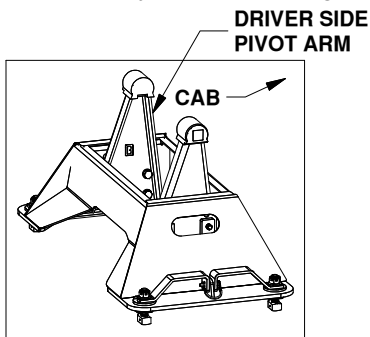
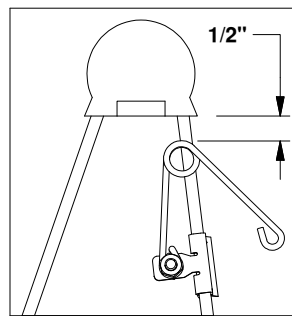

FIGURE B3: View of base.
FIGURE B4: Driver side pivot arm.
2. Locate the flange which will be closest to the truck cab on the driver side pivot arm, see figure B3. The clip should be placed so that when the springs coil is in the line with the edge of the arm there will be 1/2" of clearance between the bottom of the rubber bumper and the top of the spring, see figure B4. Drive the clip securely onto the flange with a hammer.